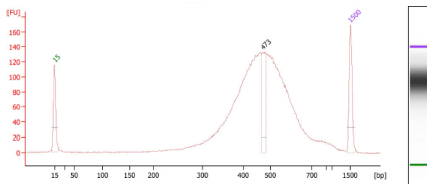

Figure 2 Agilent 2100 Bioanalyzer Fragment Size Distribution Results of the Purified PCR Product
- 3.8.2 Assess the fragment size distribution of purified PCR products with electrophoresis-based equipment such as Bioanalyzer, Tapestation (Agilent Technologies), LabChip® GX, GXII, GX Touch (PerkinElmer), or Fragment Analyzer (Advanced Analytical). Figure 2 shows the final size distribution of purified PCR products obtained by the standard library construction protocol.